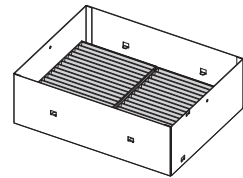

Fig. 3
- When the two air filter units are attached (Fig. 3), proceed to “Attaching the long life filter cover” (➔ page 204) next.